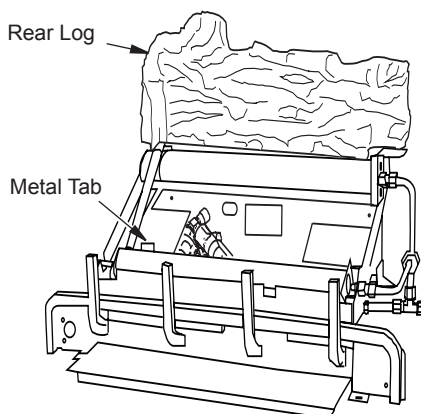

Figure 28 - Installing Rear Log
- Place rear log in back corner sections of base assembly as shown in Figure 28. The rear log is designed to lean back slightly when installed correctly.